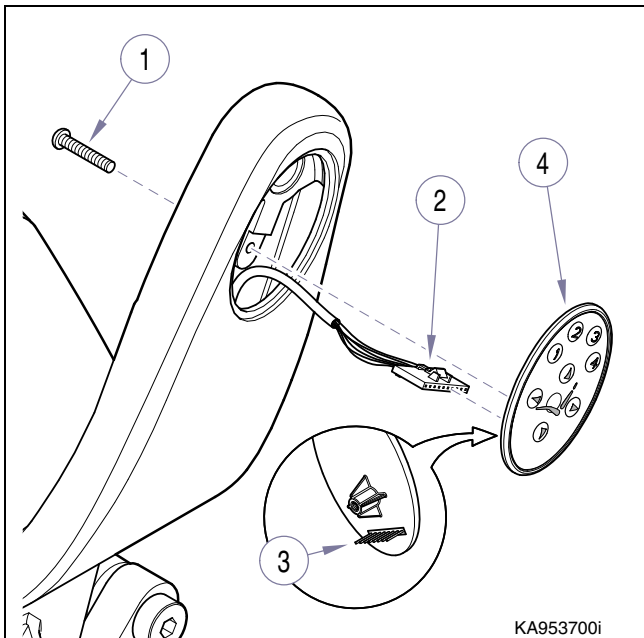

Figure 4-5. Membrane Touchpad
- (1) Unplug chair power cord.
- (2) Remove mounting screw (1, Fig. 4-5) using a 7/64" allen wrench.